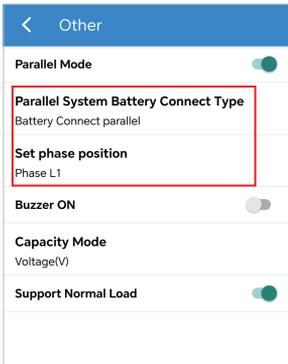

Figure 4-8 Inverter N1-Phase L1
- Go to Console > Hybrid Setting > Other to enable parallel mode, select the correct battery connection type, and set the phase position accordingly, as shown in *Figure 4-8&4-9*. Notice that all three inverters should be set in this step.